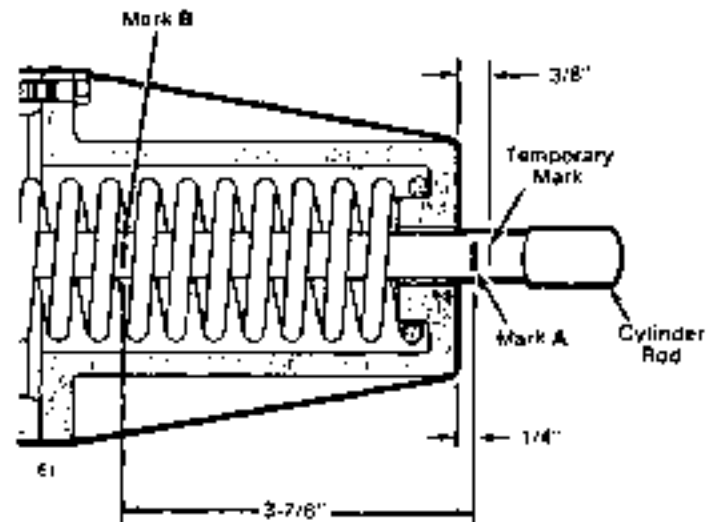

Figure 1 Cylinder Rod Marking
3. Extend the cylinder rod so the temporary mark is 3/8 inch from the end of the cylinder as shown in Figure 1.
4. Then mark the cylinder rod 1/4 inch from the end of the cylinder with a file or hacksaw blade [see Mark A, Figure 1].
5. Fully extend the cylinder rod. Then make a second mark on the cylinder rod 3-7/8 inches down from Mark A (see Mark B, Figure 1).